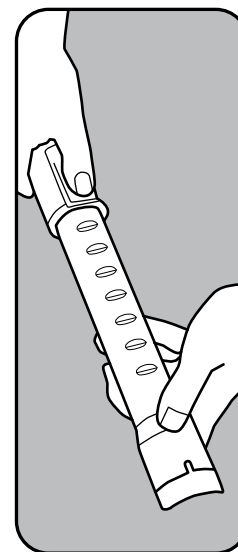

Fig. 5
2. Extend the wand by pulling the button back and pushing the end of the wand forward (Fig. 5).